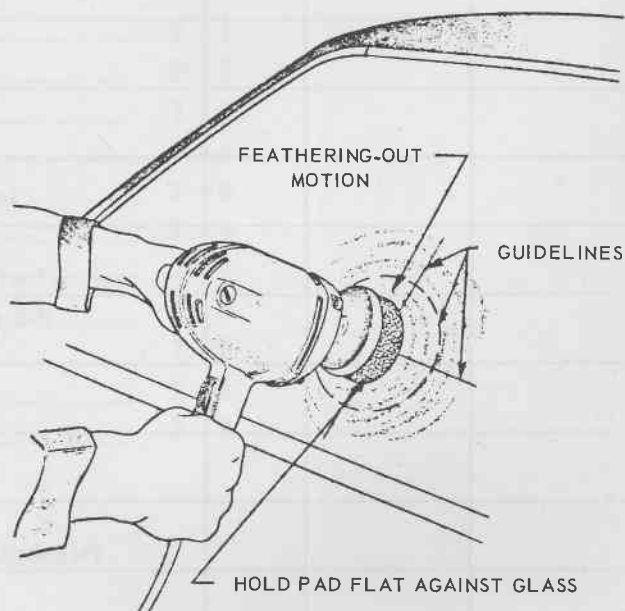

FIG. 1-6
4. Draw a circle around the scratches or abrasions on the inside of the glass, using a marking crayon. Also draw lines directly behind scratches or abrasions to assist in locating the rotary polisher, as illustrated in Fig. 1-6.
6. Using a moderate but steady pressure, hold the pad flat against the scratched area of the glass and using a feathering out motion to prevent the possibility of a "bulls-eye", remove the scratch or abrasion, as illustrated in Fig. 1-6